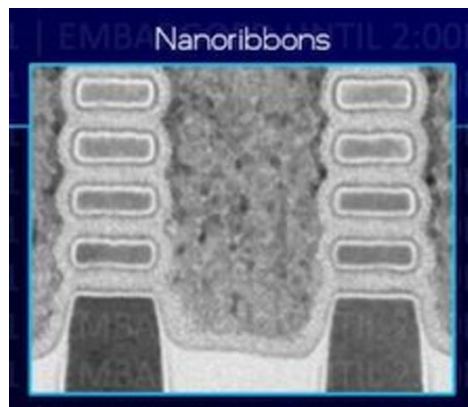

Figure 1 : Nanoribbon FET (source: Intel)
- (6). (a). With the aid of a sketch, describe the structure and explain the operation of an n-MOS transistor in enhancement mode. (10 marks)
- (c). **Figure 1** shows a cross-sectional view of a nanoribbon field-effect transistor (FET). Discuss **TWO (2)** advantages of the nanoribbon FET compared to conventional planar FETs. (6 marks)